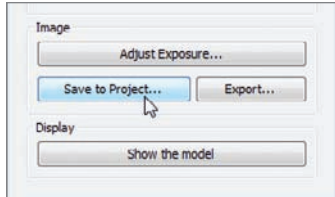

FIGURE 19.7 Saving the rendering to the project
1. In the Rendering dialog, click the Save To Project button, as shown in Figure 19.7.